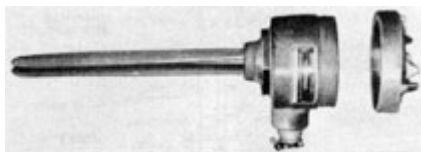

Figure 10-7. Immersion heater.
**10D5. Electric heaters** (Figure 10-7). The three 2,000-watt electric heaters (see Figure 10-13) are located horizontally and parallel to each other in the boiler section. They are special Chromalox heaters of the tubular hairpin